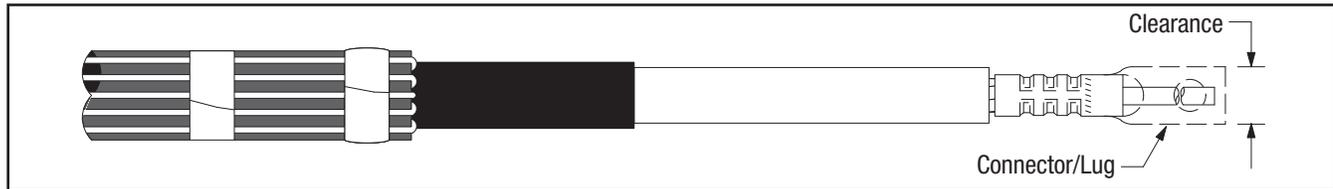

Figure 4
- 3.1 Check to insure 3M Cold Shrink QT-III Silicone Rubber Termination assembly fits over the selected lug or connector BEFORE installing the lug or connector. If lug or connector (Figure 4) will not fit through the termination core, clean the insulation (per Step 4.0) and slide termination on cable before installing lug or connector. **DO NOT REMOVE CORE AT THIS TIME.**